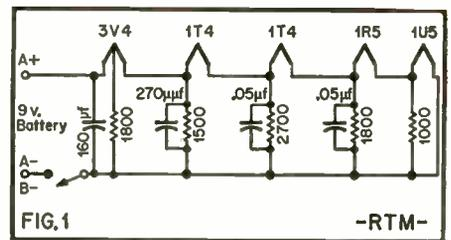

FIG.1
When no signal is applied to the vertical amplifier input terminals of the scope, and the internal sweep oscillator is switched off, a single spot appears at the center of the screen. This condition is illustrated by (A) and (C) in Fig. 1.
Now, consider a symmetrical AC signal applied to the vertical input terminals. A symmetrical signal is one in which the positive and negative peaks have equal amplitudes. During the positive half-cycle, the spot will be deflected from its position of rest B (see Fig. 1-B) upward to point A and back to B. It then will be deflected downward to point C and back to B during the negative half-cycle. The result is the vertical straight-line trace ABC made by the moving spot. Since both the positive and negative half-cycles are of equal amplitude in this case, the movement of the spot from B to A is equal to its movement from B to C. Note carefully
A similar condition results when a symmetrical signal is applied only to the horizontal input terminals of the oscilloscope. See Figures 1(C) and 1(D). In this case, the spot is deflected rapidly to the right and left of its position of rest at the center of the screen. The result is a horizontal straight-line trace, as shown in Figure 1(D). Here, the peak voltage, rms voltage, and peak-to-peak voltage are measured in the same manner just described for the vertical line trace.
In making the oscilloscope calibration, we will use line patterns similar to Fig. 1(B). The line will be adjusted to various lengths by varying the calibration voltage, and the voltage value will be read by means of an AC voltmeter. The scope sweep is not used, since the highest point of a line is easier to see than the peak of a waveform.
ply and the plate-screen currents returning to B- through the filaments. Consequently, it is desirable to add shunt resistors to bypass some of this current and to maintain the filament voltage at the rated value. See Fig. 1 for a diagram showing the resistors suggested in a typical battery filament circuit. The filament string uses 8.4 volts at 50 mils, and the resistors maintain the current and voltage at this value by bypassing the screen and plate currents passing through the filament.